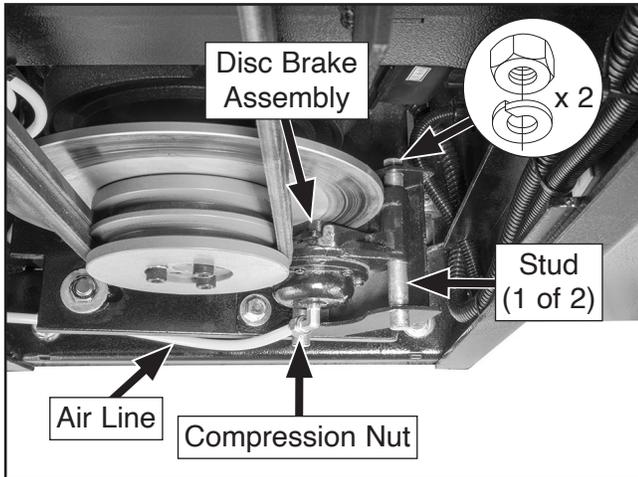

Figure 85. Disc brake assembly removal components.
- Loosen compression nut shown in **Figure 85**, then remove air line.
- Remove (2) hex nuts, lock washers, and studs that secure disc brake assembly to mount (see **Figure 85**).
14. Place disc brake assembly back in mount, placing brake pads around rotor (see **Figure 85** on **Page 56**), then secure with studs, lock washers, and hex nuts removed in **Step 6**.